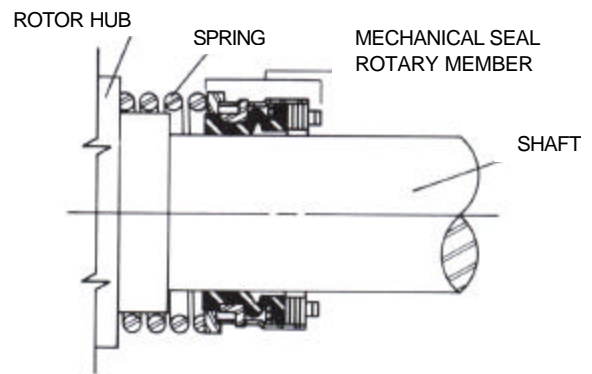

FIGURE 11
7. Place seal spring on shaft against rotor hub. Refer to Figure 11.